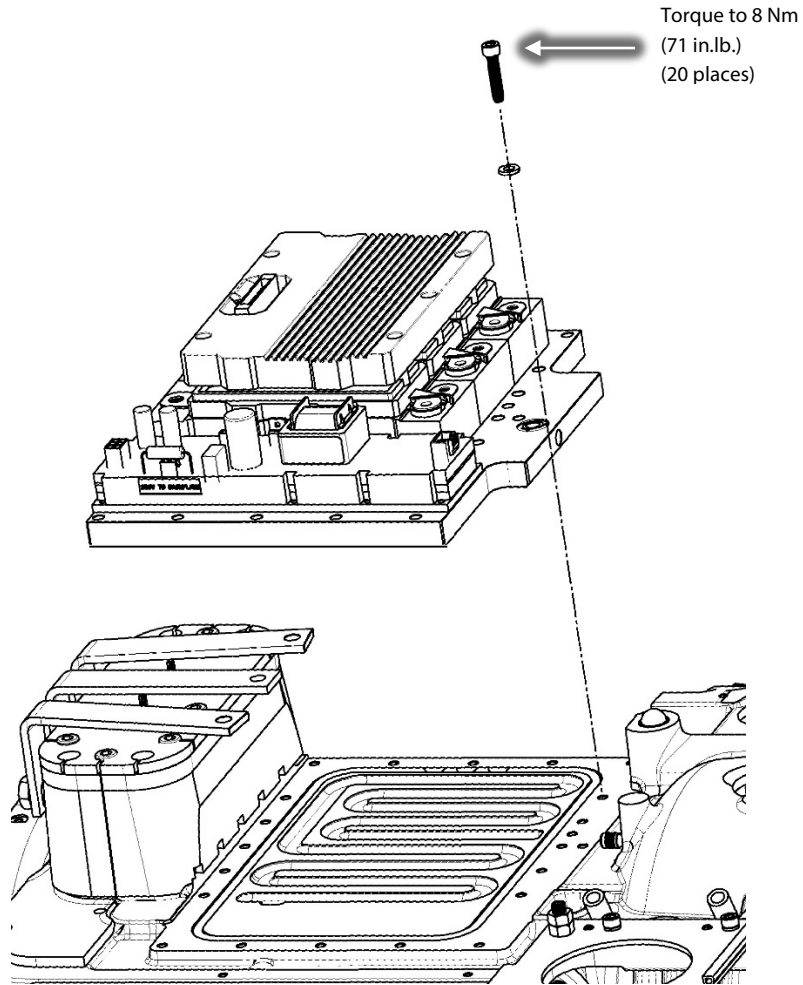

Figure 19 – Inverter Removal
28. Remove the 20 fasteners that secure the Inverter to the compressor main housing. Refer to Figure 19 (Inverter Removal).